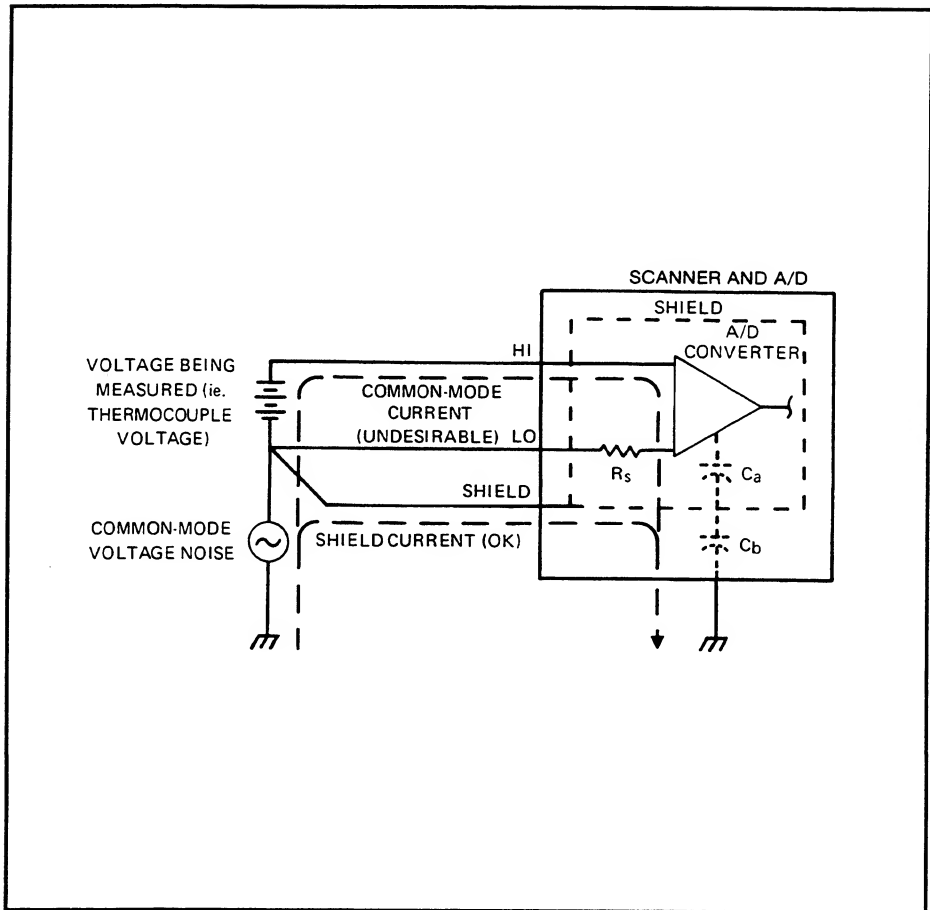

Figure 175-2. Shield Connection for Optimum Common Mode Rejection (-161/-162 Configuration)
2. If significant common mode voltage (greater than one volt) is present, connect SHIELD to LOW by means of a third wire at the measurement point. This arrangement is shown in Figure 175-2.